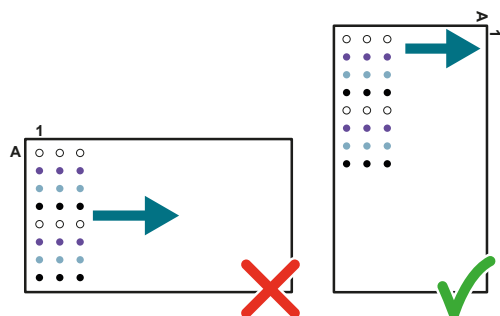

Figure 26. Rotating the Sample Reagent Plate
**NOTE:** Rotate the Sample Reagent Plate (384-well) 90 degrees clockwise to facilitate pipetting (shown to the right of Figure 26).